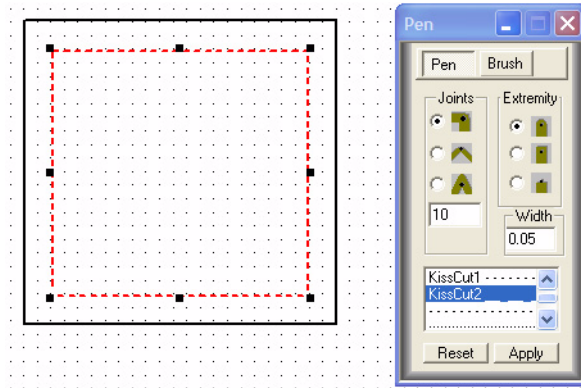

Figure 181
- 1 Click the **Pencil** tool on the left toolbar to open the **Pen/Brush** window. See figure 181.